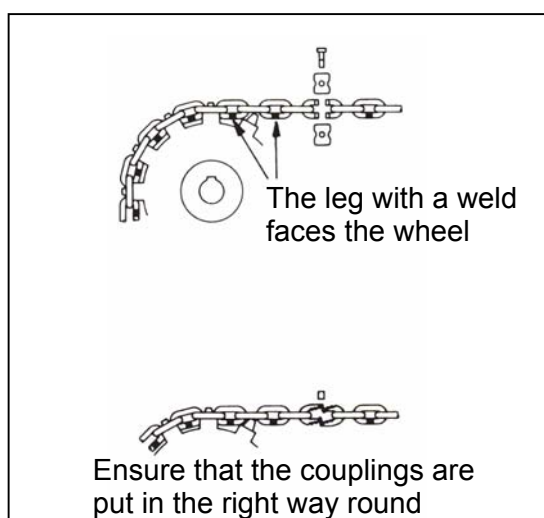

Fig. 1
1. The welded joints of the vertically arranged links must face the centre of the wheel when they pass over the drive wheels (fig. 1).
2. Ensure that the chain couplings are oriented correctly to the sprocket wheels – with the coupling screw parallel to the axis of the sprocket wheel – (this also applies to pocket wheels and grooved wheels) (figs. 1 and 2). The nuts must face the centre of the conveyor system. This prevents damage occurring to the chain coupling or system.